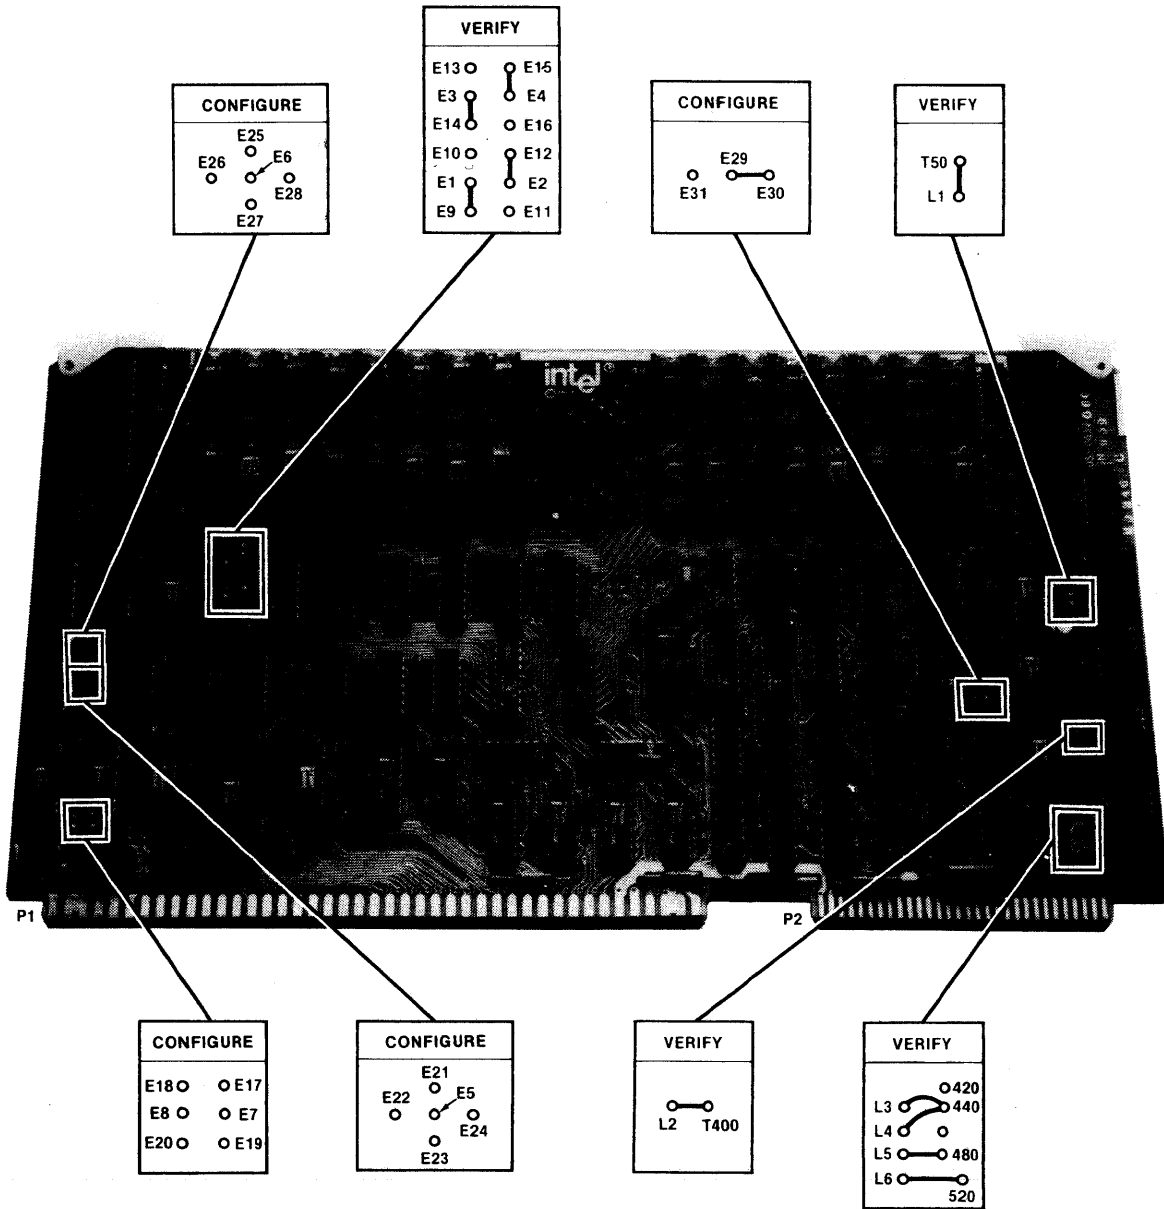

Figure 5-16. iSBC 064™ 64k RAM Board Configuration Jumpers
- a. Referring to figure 5-16 and table 5-2, verify the following four plug-on jumpers: